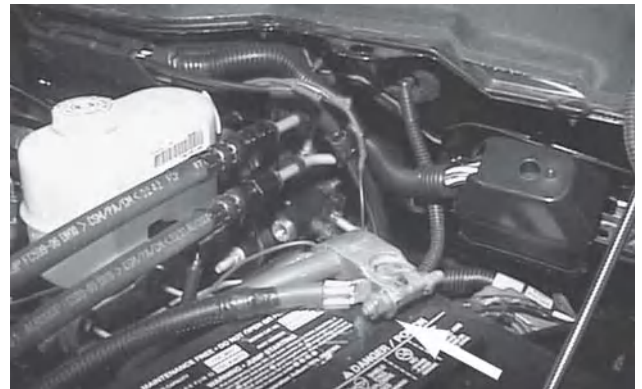

Fig. 21b
- Remove nut from the clamp and install the fused black brake harness wire with eyelet onto the bolt. Replace the nut and tighten onto the positive battery post. (see figure 21b)
- Reinstall the passenger side battery into the tray and secure with the battery clamp. (see figure 21b)